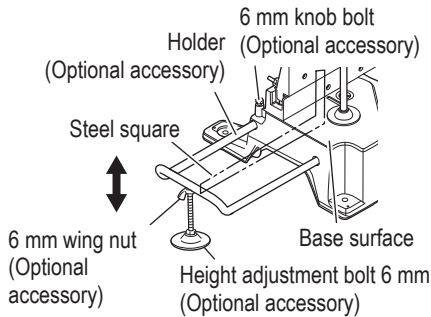

Fig. 23
- (1) As indicated in Fig. 23, use a steel square for aligning the upper edge of the holders with the base surface. Loosen the 6 mm wing nut. Turn a height adjustment bolt 6 mm, and adjust the height of the holder.
- (2) After adjustment, firmly tighten the wing nut and fasten the holder with the 6 mm wing knob (optional accessory). If the length of Height Adjustment Bolt 6 mm is insufficient, spread a thin plate beneath. Make sure the end of Height Adjustment Bolt 6 mm does not protrude from the holder. (Fig. 23)